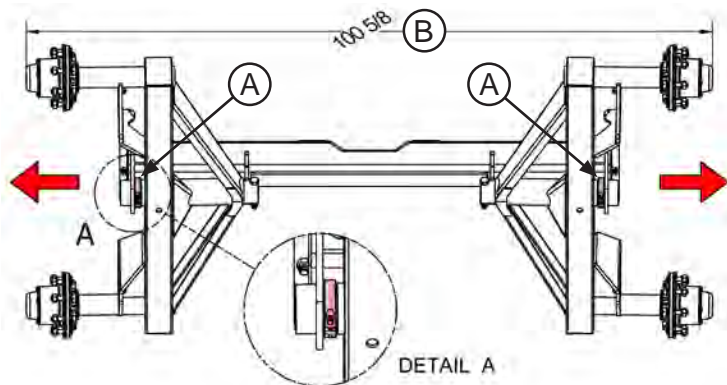
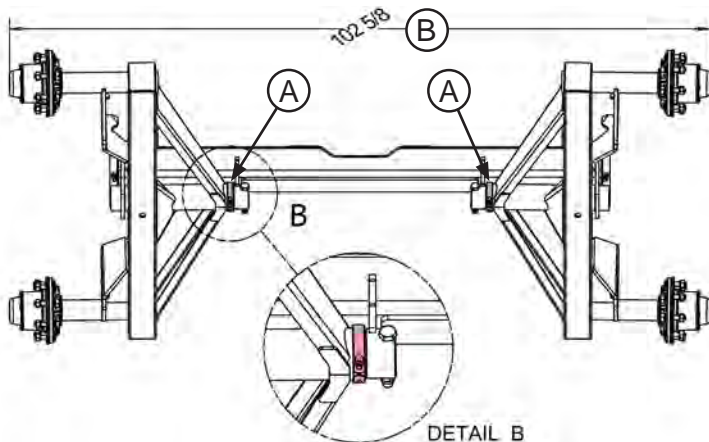

Fig. 2 - Shipping Position
Fig. 3 - Operating Position
Nitro models 375RS and 575RS are shipped with locking collars (A) on the axle pivot pins to shorten the width of the axle (B) to meet shipping width restrictions, see Fig.2. This shortened axle width brings tires against the frame (C) if installed **WITHOUT** moving locking collars to operating position, see Fig.3.